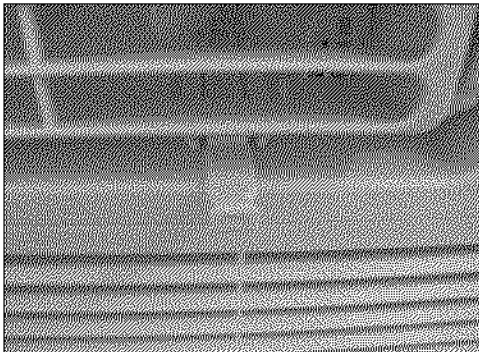

Figure 2 (VENT OPEN)
2. Draw fresh air into the room— Vent Open (see Fig. 2)